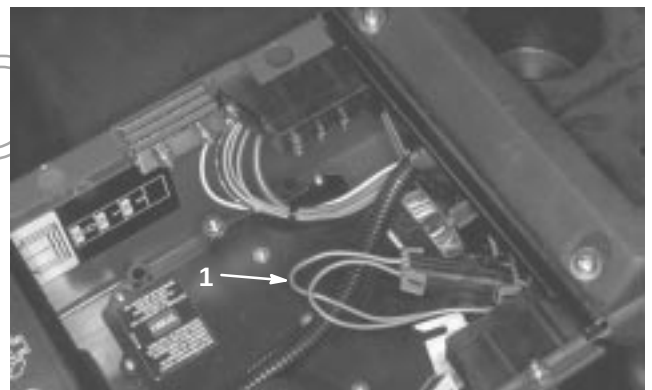

Figure 28
2. Open control panel cover. Locate wire harness and connectors near controller. Carefully unplug loop back connector from harness connector (Fig. 28).
3. Connect the Diagnostic ACE display connector (Fig. 28) to the harness connector. Make sure correct overlay decal is positioned on Diagnostic ACE display.